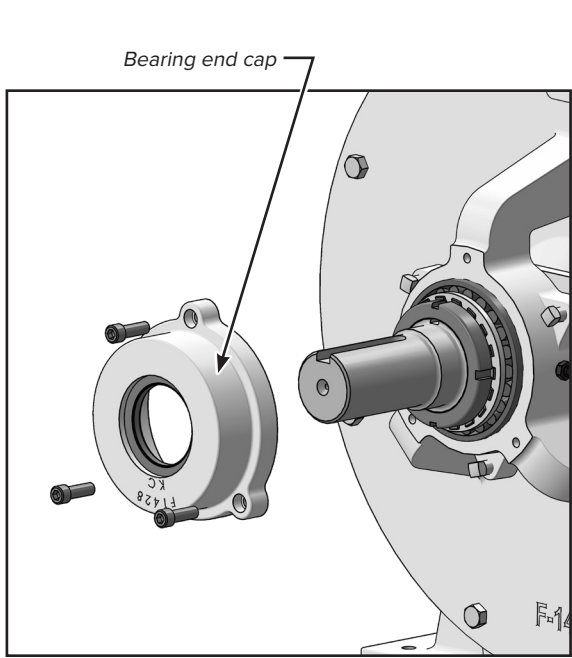

FIGURE 10
- 5. Remove bearing endcaps from bearing supports as shown (figure 10). **Take care not to damage lip seal in the bearing end cap.**
- 9. Remove bearing endcaps from bearing supports as shown (figure 10). **Take care not to damage lip seal in the bearing end cap.**